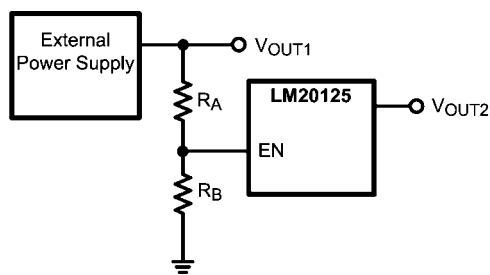

FIGURE 6. Sequencing LM20125 with Precision Enable
The precision enable (EN) and power good (PGOOD) pins of the LM20125 can be used to address many sequencing requirements. The turn-on of the LM20125 can be controlled with the precision enable pin by using two external resistors as shown in *Figure 6*.